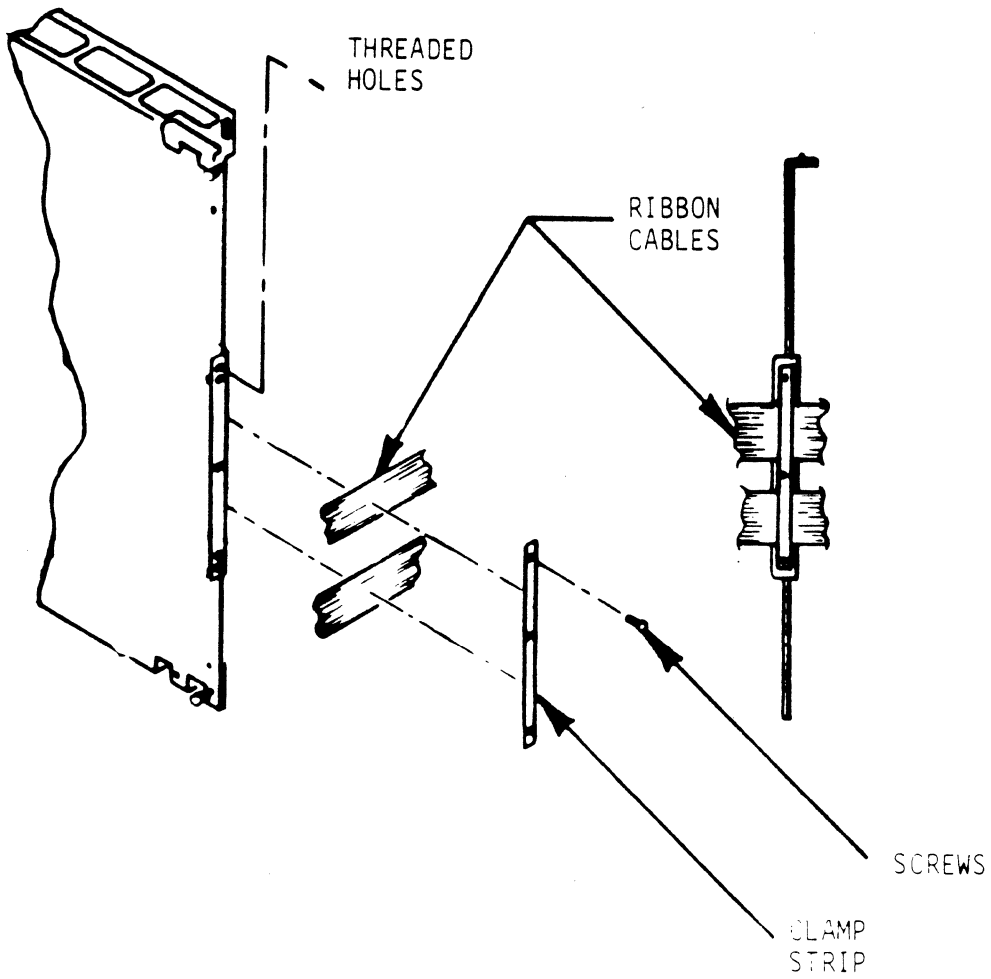

Figure 3-12. I/O Ribbon Cable Instructions
4. Place the ribbon cables against the logic cage bracket. Reference figure 3-12. Place the clamp strip over the cables and secure the clamp strip to the cable bracket with 3 screws and washers. Reference figure 3-12. Be sure the clamp strip and the cable bracket make good contact against the ground shield of the ribbon cables. The top and bottom threaded holes in the cable bracket provide additional grounding points, as required. Reference figure 3-12.